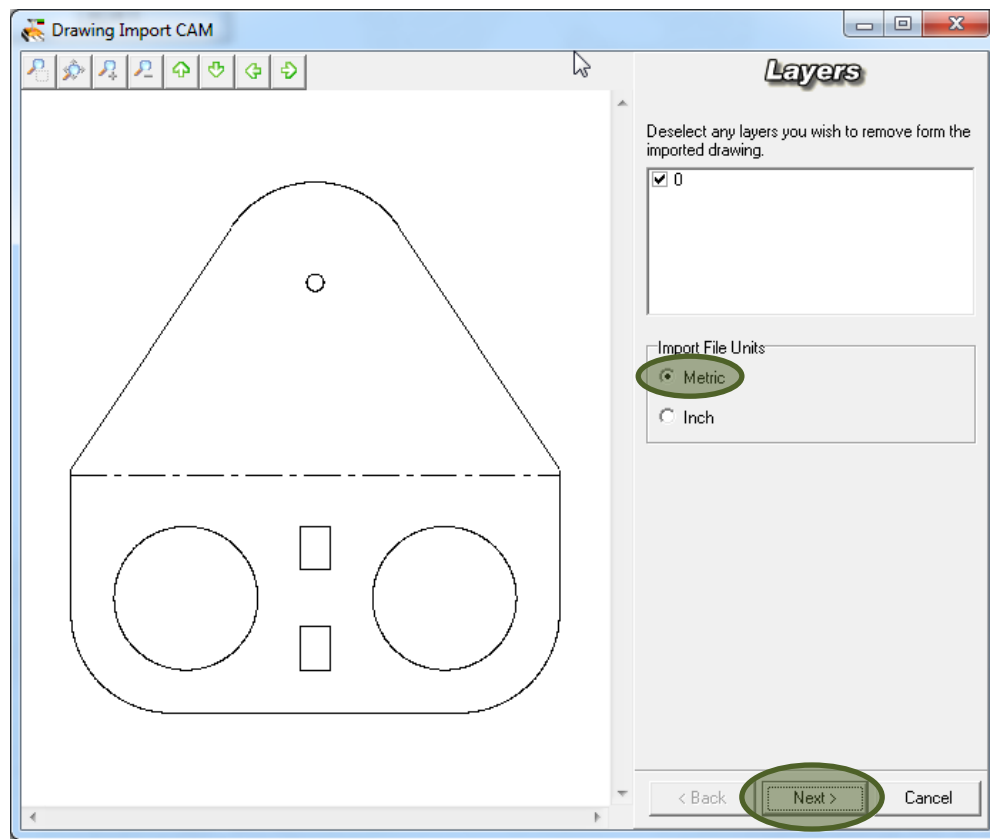

Figure 10
The "Drawing Import CAM" window will open (Figure 10).
- Check that the selected Import File Units are set to metric (Figure 10).